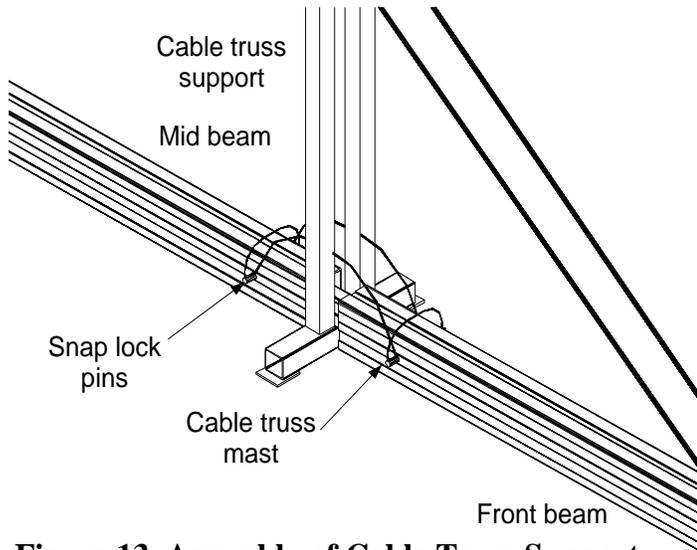

Figure 13. Assembly of Cable Truss Support with Beams
3. Assemble the Front Beam with the second Mid Beam through the Cable Truss Support (SP 165). The Cable Truss Support pins to the second Mid Beam and Front Beam similar to a Beam Splice. Once again, ensure that the retaining pins are locked (see Figure 13).